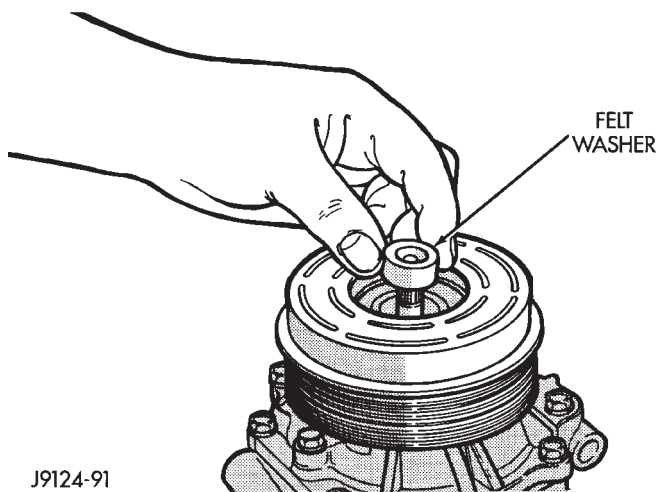

Fig. 7 Felt Washer
- (4) Remove felt washer (Fig. 7).